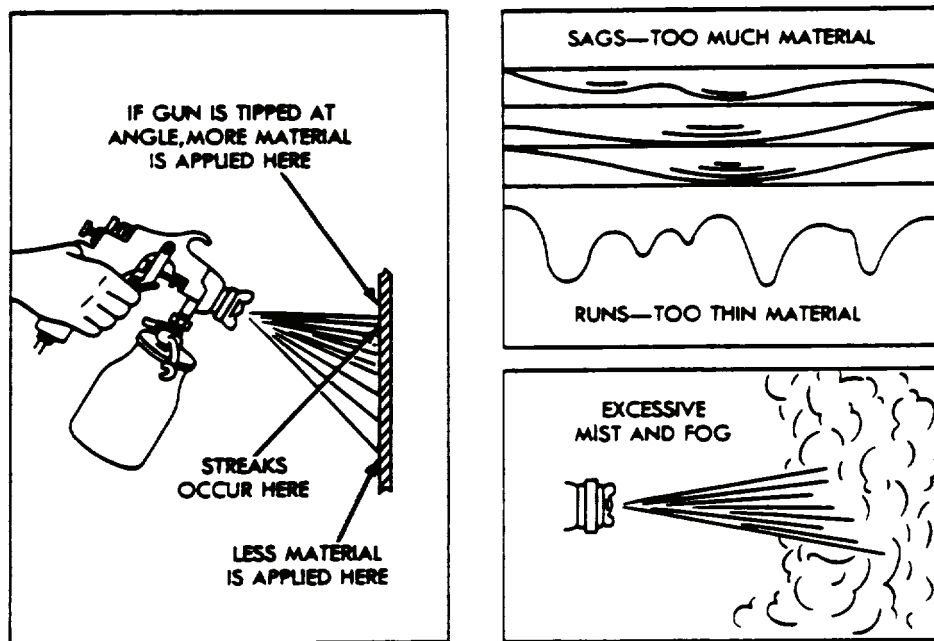

Figure 13-8. Spray Painting Faults
- Tipping gun, thereby causing one side of pattern to deposit more material than the other side. Refer to Figure 13-8, Spray Painting Faults.